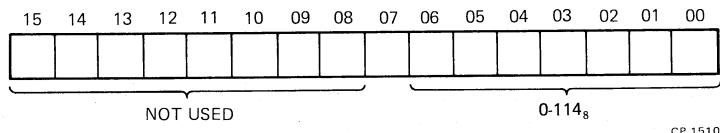

Figure 4-18 RXTA Format (RX11/RXV11)
4.2.2.3 RXTA – RX Track Address (Figure 4-18) – This register is loaded to indicate on which of the 77 (114_8) tracks a given function is to operate. It can be addressed only under the protocol of the function in progress (Paragraph 4.2.3). Bits 8–15 are unused and are ignored by the control.